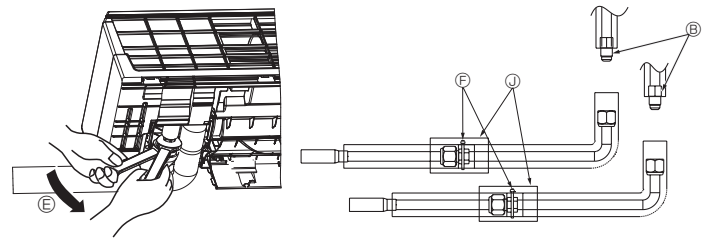

Fig. 3-18
- (6) Direct the L-shaped connector toward the exiting direction of the piping and tighten it with two wrenches. (Fig. 3-18)